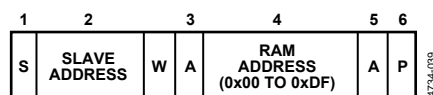

Figure 28. Setting a RAM Address for Subsequent Read
The SMBus specification defines several protocols for different types of read and write operations. The following abbreviations are used in Figure 28 to Figure 36:
- To write a register address to the RAM for a subsequent single byte read from the same address, or for a block read or a block write starting at that address, as shown in Figure 28.